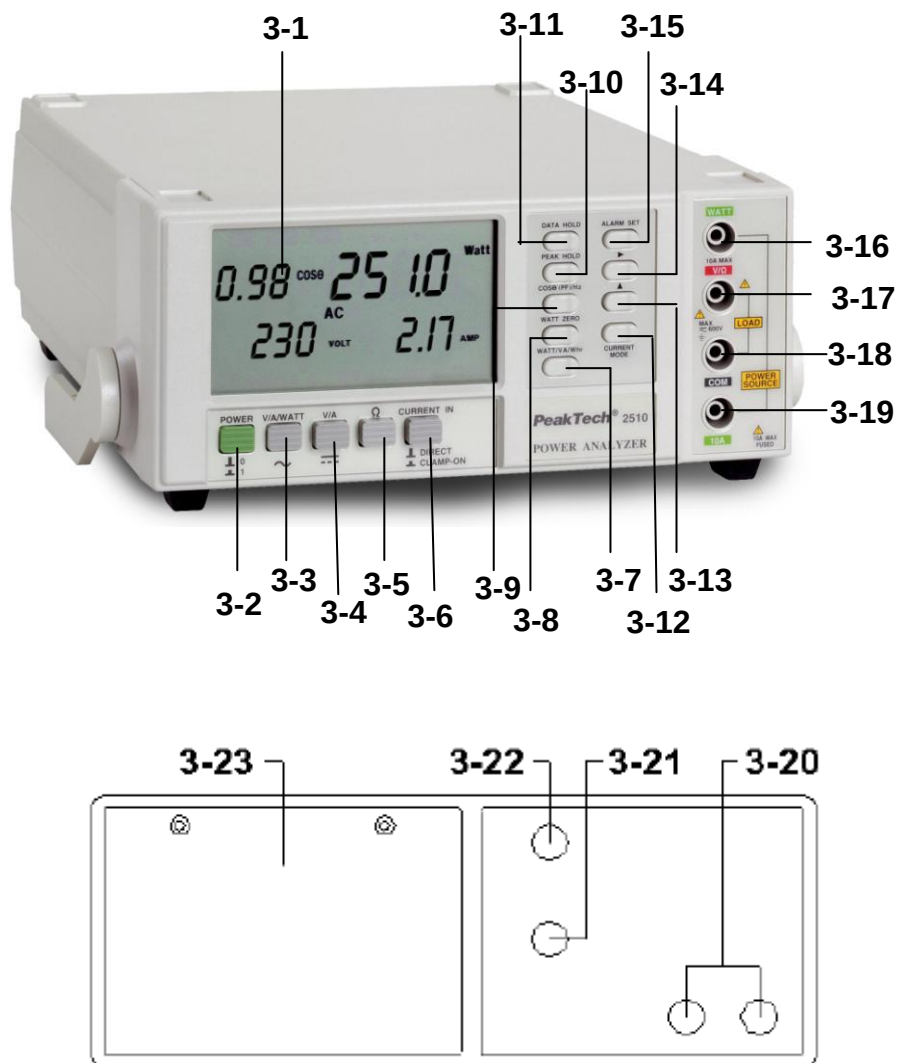

Fig.1
1. Push the "Power Switch" (3-2, Fig. 1) to "ON" position
2. Select the "AC/V/A/Watt-Switch" (3-3, Fig. 1)
3. Select the "Current In"-Switch (3-6, Fig. 1) to the "DIRECT"-position
4. Do not make any wire connection to the input terminals. If the watt display is not zero, push the "Whr-Zero Button" (3-8, Fig. 1) once, then watt display will show "0".
The "LCD Display" (3-1, Fig. 1) will show the Watt, Voltage, Current, PF (Power Factor) at the same time.
8. During the Watt measurement, push the "cos ϕ /PF/Hz Button" (3-9, Fig. 1) once, will show Line Frequency value instead of the PF value.
All the measuring procedures are same as the above "7.1-AC Watt/V/A/PF/Hz" measurement, except you should push the "Watt/VA/Whr Button" (3-7, Fig. 1) once, then the display will show the VA, voltage, current, Hz at the same time.
All the measuring procedures are same as the above "7.1-AC Watt/V/A/PF/Hz" measurement, except you should push the "Watt/VA/Whr Button" (3-7, Fig. 1) twice, then the display will show the Whr value along with the elapsed time.
- * The display of Whr measurement will stop (hold) when pushing the "Data Hold Button" (3-11, Fig. 1) once. Push the "Data Hold Button" once again for continuing the Whr function.
- * Press "Whr Zero" button (3 – 8, Fig.1) once will "reset (zero)" the Whr measuring value and make the new measurement again.
1. Push the "Power Switch" (3-2, Fig. 1) to "ON"-position.
2. Select the "AC V/A/Watt Switch" (3-3, Fig. 1).
3. Select the "Current In Select Switch" (3-6, Fig. 1) to the "DIRECT"-position.
- a) Connect red test lead to "V/Ohm Terminal" (3-17, Fig. 1) and black test lead to "COM Terminal" (3-18, Fig. 1)
- a) Connect red test lead to "Current (10 A) Terminal" (3-19, Fig. 1) and black test lead to "COM Terminal" (3-18, Fig. 1)
2. Select the "DC V/A Switch" (3-4, Fig. 1)
3. Select the "Current In Select Switch" (3-6, Fig. 1) to the "DIRECT" position.
- a) Connect red test lead to "V/OHM Terminal" (3-17, Fig. 1) and black test lead to "COM Terminal" (3-18, Fig. 1)